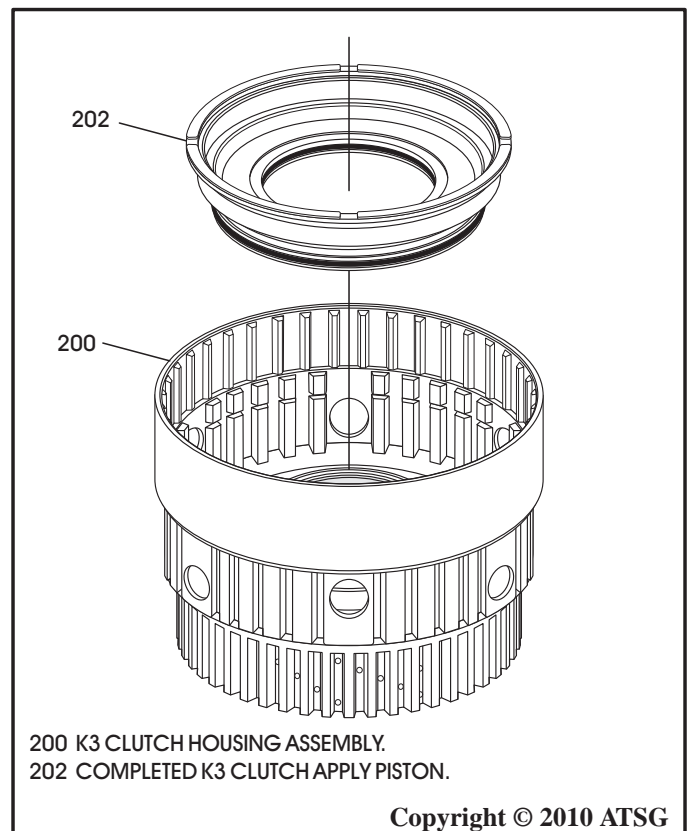

Figure 137
8. Lube the seal surfaces of K3 clutch housing and install completed K3 clutch apply piston, as shown in Figure 137.